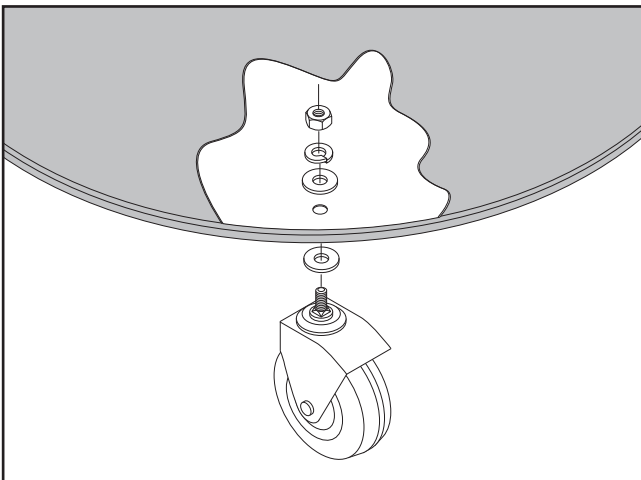

Figure 23. Cut-away illustration of casters attached to the lower collection drum.
16. Attach the casters to the bottom of the lower collection drum, as shown in **Figure 23**, using the (4) $\frac{3}{8}$ "-16 hex nuts, (8) $\frac{3}{8}$ " flat washers, and (4) $\frac{3}{8}$ " lock washers included in the box with the casters.